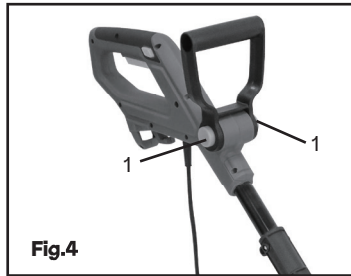

Fig.4
Press and hold both auxiliary handle adjustment buttons (1) at the same time to adjust the handle. The handle can rotate up to 180° (see Fig. 4).